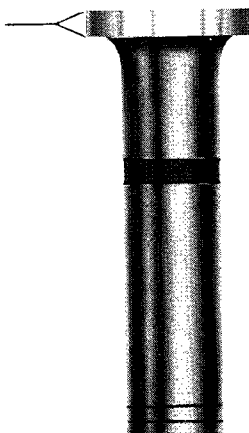

Figure 6-22. Surface to be Cleaned of Ferrox Coating
a. Clean the edge of the face with medium grade sandpaper and any Ferrox coating (figure 6-22).